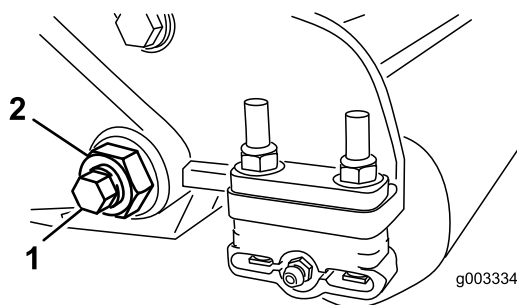
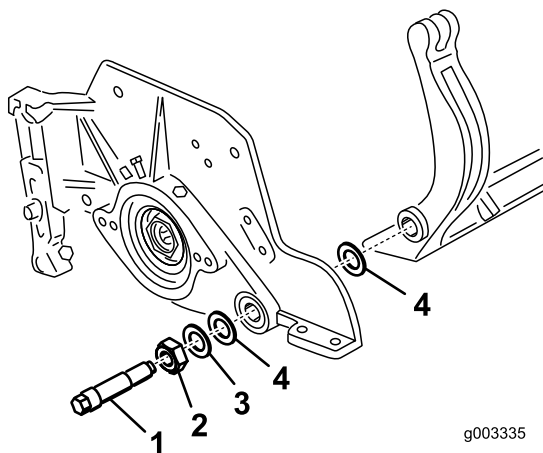

Figure 34
Figure 35
3. On each side of the machine, loosen the lock nut securing the bedbar bolt (Figure 34).
4. Remove each bedbar bolt allowing bedbar to be pulled downward and removed from machine bolt (Figure 34). Account for 2 nylon and 1 stamped steel washers on each end of bedbar (Figure 35).
2. Secure bedbar to each side plate with bedbar bolts (nuts on bolts) and 6 washers. A nylon washer is to be positioned on each side of side plate boss. Place a steel washer outside each of the nylon washers (Figure 35). Torque bedbar bolts to 27-33 (37-45 N-m). Tighten locknuts until the outside steel washer stops rotating and end play is removed but do not overtighten or deflect side plates. Washers on inside may have a gap.